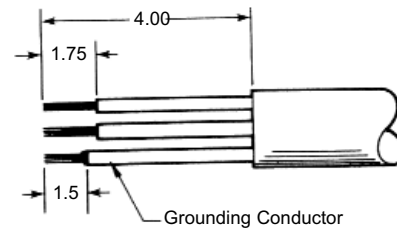

Figure 5L
3. Strip outer cable jacket and then conductor insulation to the dimensions shown in Figure 5L.